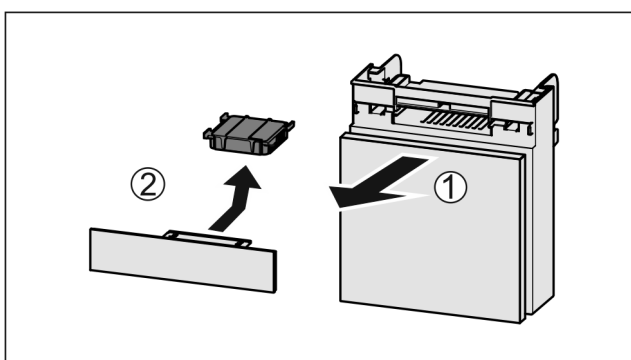

Fig. 73
- ▶ Pull out the compartment Fig. 73 (1).
- ▶ Remove the carbon filter Fig. 73 (2).